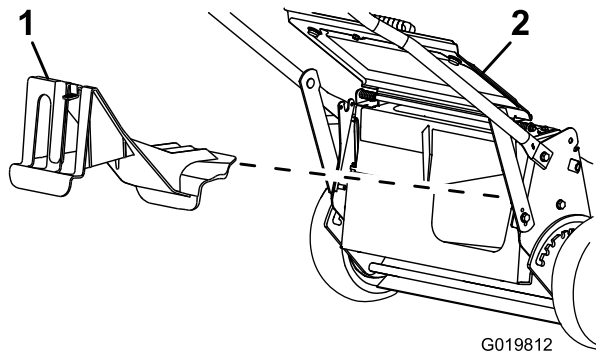

Figure 18
- If the rear-discharge plug is not installed, grip it by the handle, raise the rear deflector, and insert it into the rear-discharge chute until the latch locks into place; refer to Figure 18.
2. Remove the rear-discharge plug by pulling down on the latch with your thumb and pulling the plug out from the machine (Figure 18).